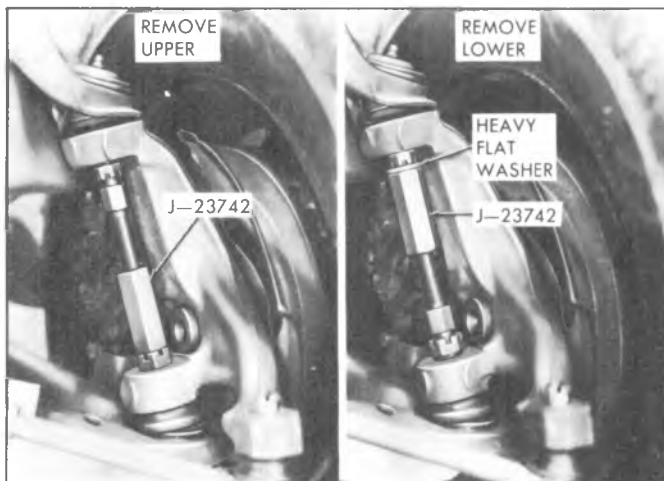

Fig. 3C-27—Disconnecting Ball Joints—Typical
3. Install J-23742 between the ball studs as shown in Figure 3C-27.